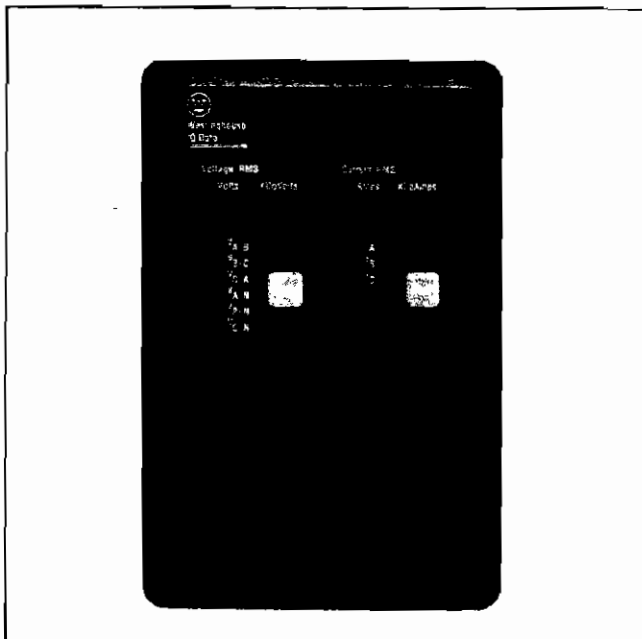

Figure 1.1 — IQ Data
1.0 General — The IQ Data is a microprocessor-based, self-contained, door-mounted device designed to both monitor and display electrical parameters. (See Figure 1.1)